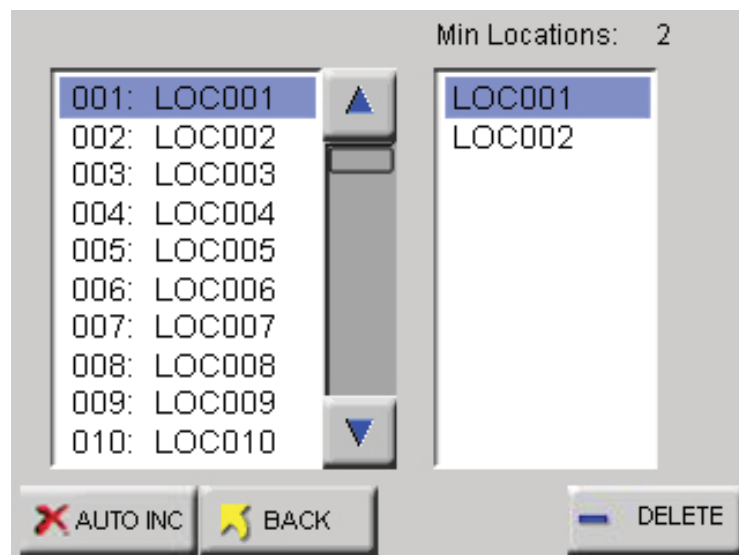

Figure 6-90 Reports Location Screen
- Select the LOC button to select, add or delete locations or enable Auto Inc as shown in Figure 6-90.